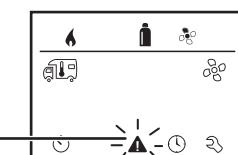

Fig. 25
1. Select the icon ("Fig. 25") with the rotary push button.
**i** In this case, the error is not acknowledged in the CP plus VarioHeat and the warning icon (Fig. 25) remains. The appliance remains in error status. Other connected appliances can be operated.
1. Select the warning symbol (Fig. 25) with the rotary push button.